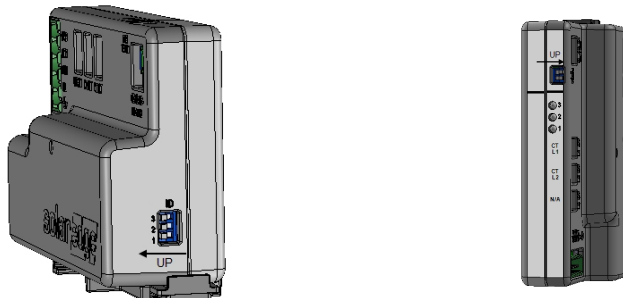

Figure 12: ID and termination DIP switches
- In the meter, ensure the RS485-1 DIP switch is down. See *Figure 12*.